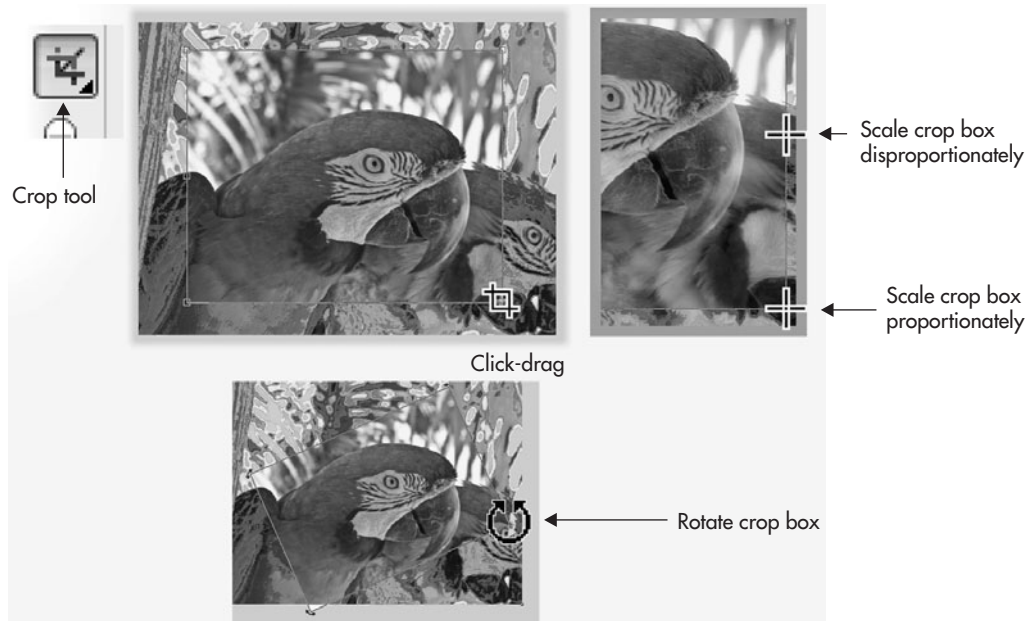

FIGURE 24-1 The Crop tool eliminates the exterior image areas of your defined crop area.
5. Double-click inside the crop area to finish the crop. Figure 24-1 shows the elements you work with onscreen to crop a bitmap image.